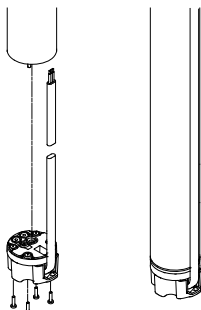

Fig. 8
4. Press the cable plug onto the motor socket. The plug cannot be fitted wrongly. See fig. 8.
5. Fit and tighten the four screws (1 - 1.5 Nm). See fig. 8.